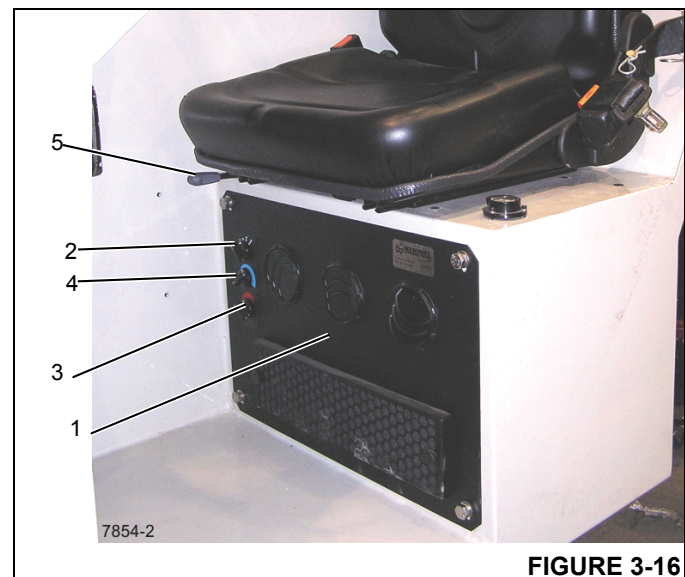

FIGURE 3-16
The cab heater/ air conditioner (furnished as an option with enclosed cabs) is located under the operator's seat (1, Figure 3-16).
To operate the heater, use the fan switch (2, Figure 3-16) in conjunction with the heater control (3) to select the desired fan speed and amount of heat.
To operate the air conditioner, use the fan switch (2, Figure 3-16) in conjunction with the air conditioner control (4) to select the desired fan speed and amount of air conditioning.
Seat Fore & Aft Adjustment - To adjust the seat, move the control lever (5, Figure 3-16) to the right. Move the seat to proper position and then move the control lever back to the left to lock the seat position.